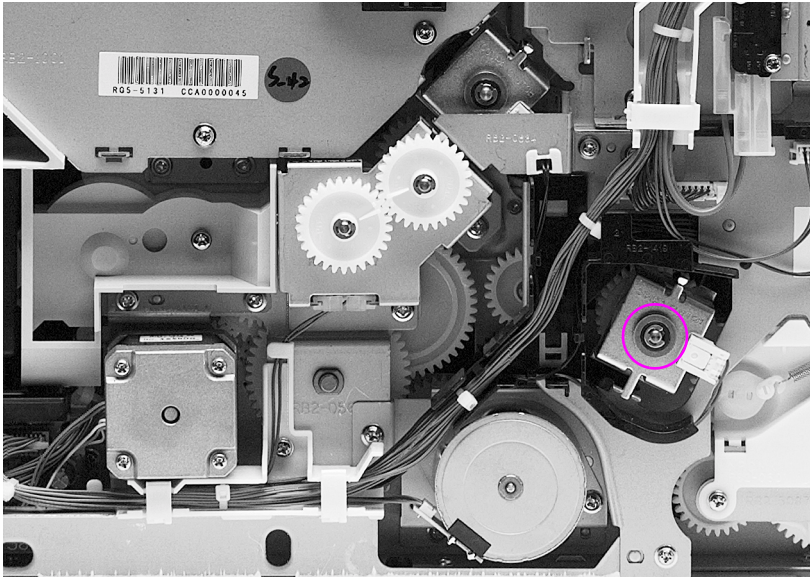

Figure 6-54 Transfer roller cam clutch removal and replacement
- 4 Remove the e-clip shown in Figure 6-54 with needle-nose pliers and remove the clutch.